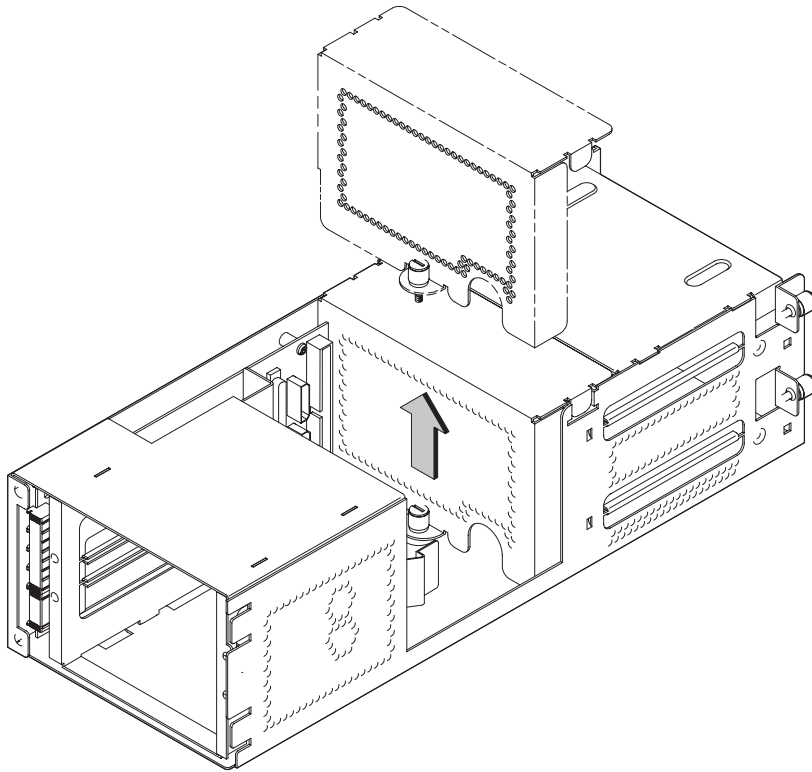

Figure B-6. Removing FAN/EMI Plate
- 9.** Unscrew the captive screw holding the FAN/EMI plate at the back of the removable drives and lift the plate up and out of the drawer, as shown in Figure B-6.